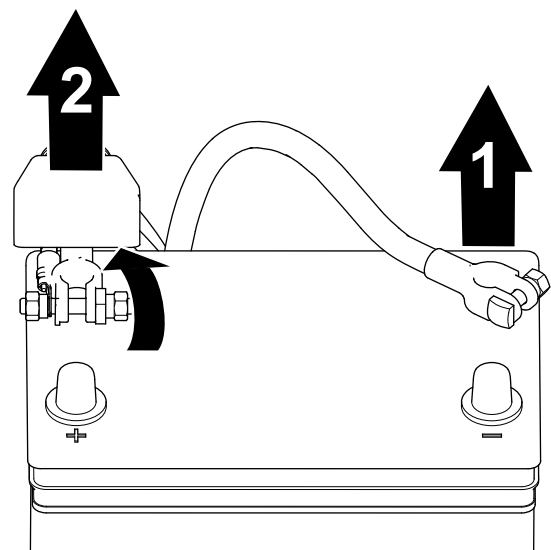

Figure 39
2. Remove the negative battery cable from the battery post (Figure 39).
3. Lift the insulator and remove the positive battery cable from the battery post (Figure 39).